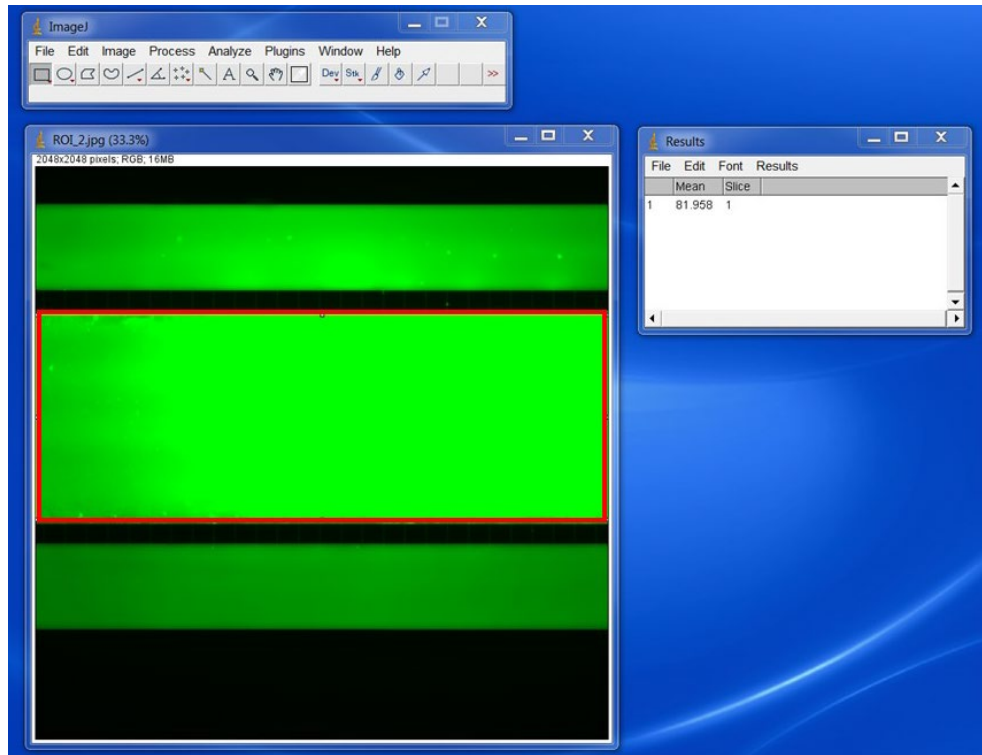

Figure 4. The mean gray value of the epithelial channel (red square) in ImageJ.
- Analyze the mean gray value of the individual image or the stack (**Figure 4**):